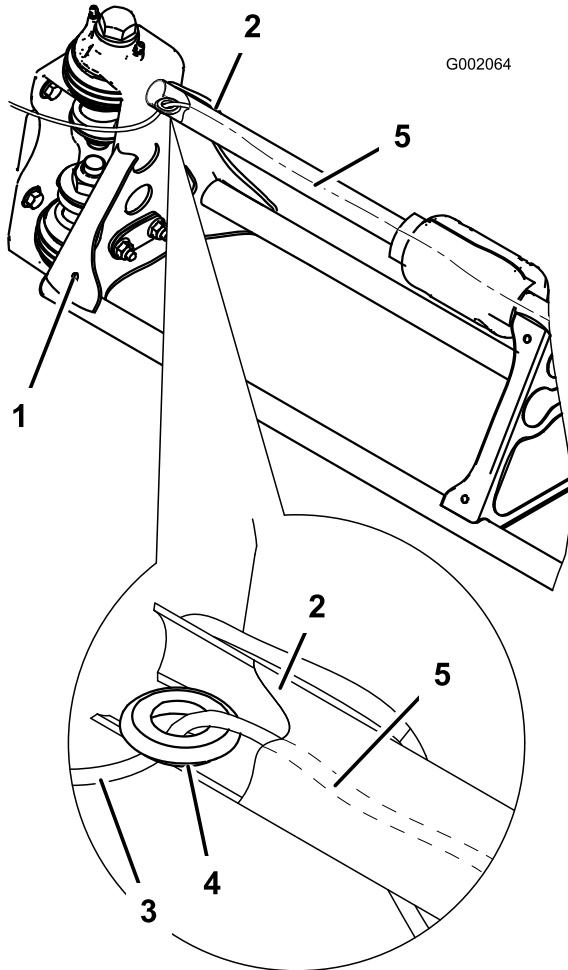

Figure 30
2. Route the hose from mixing tee through the cut-out on the underside of the top bar in the boom frame (Figure 30). Feed the hose until it extends **2-3 inches beyond** the end of the frame tube.
3. Secure the boom hose in the frame tube by installing the grommet into the cut-out (Figure 30).